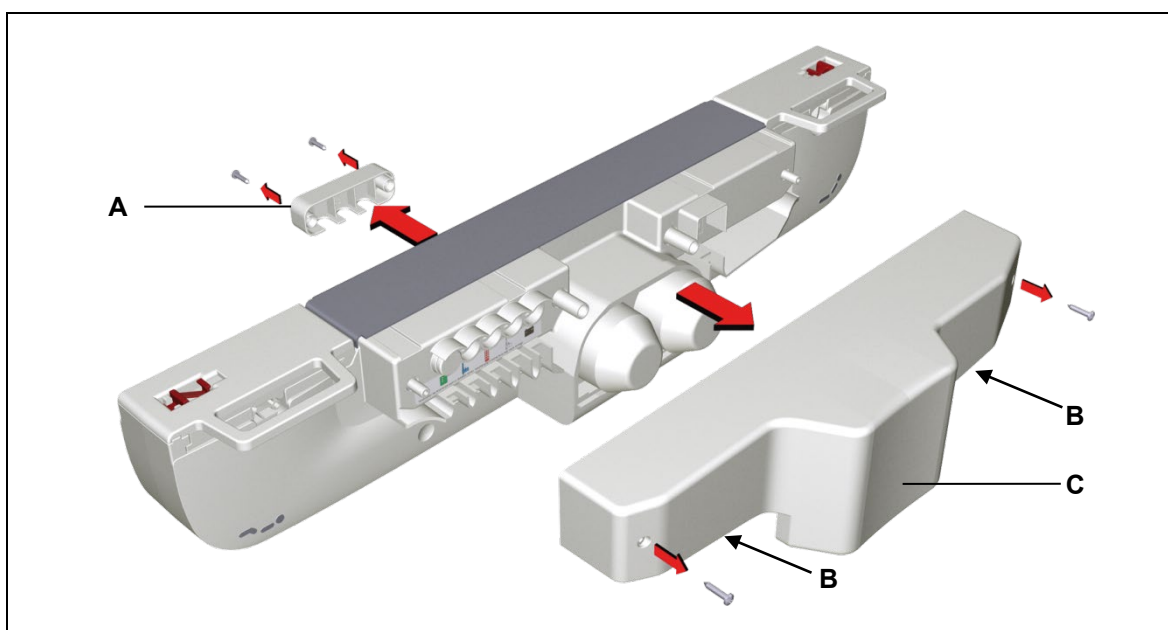

Figure 12 Removing the motor cap
- 3 Loosen the screws on the cover (shown by **A** in Figure 12) at the rear of the drive and remove the cover.